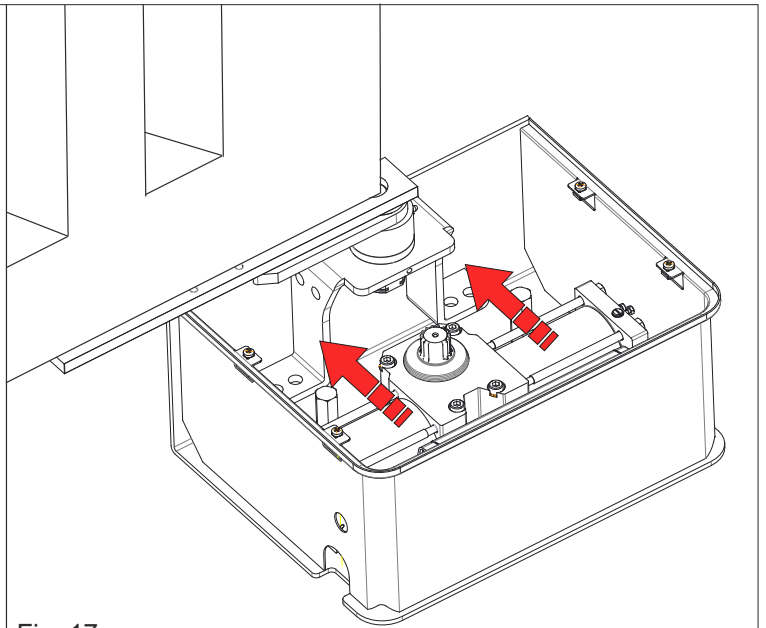

Fig. 17
5.2. Once the operator has been placed in the box, move it forward (Fig. 17) until the splined shaft of the operator is in correspondence with the hole of the box shaft